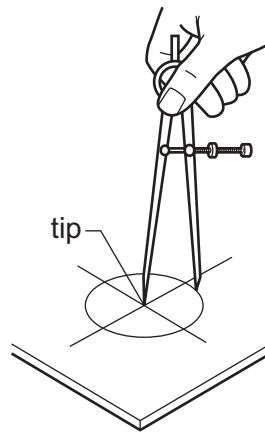

Fig. 3.1
- 3 Fig. 3.1 shows a tool used to mark a circle on metal surfaces.
- (a) Name the tool shown in Fig. 3.1.